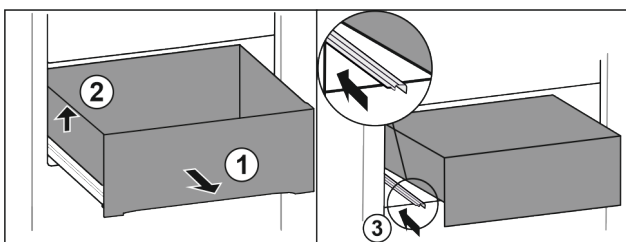

Fig. 92
- ▶ Pull out drawer as far as it will go. Fig. 92 (1)
- ▶ Lift drawer on the left. Fig. 92 (2)
- ▶ Insert left rail. Fig. 92 (3)